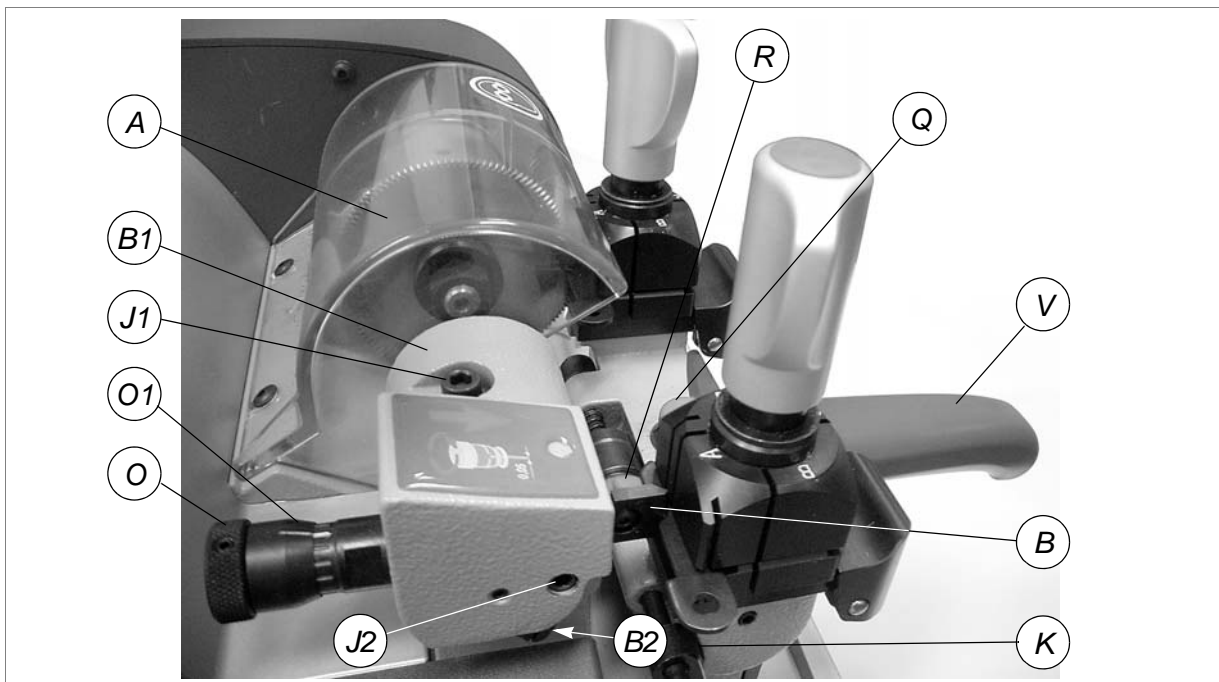

Fig. 17
- 3) Release the carriage by lowering the knob (V) and pressing the push button (Q) right down (fig. 17, page 15).
- a) loosen the screw locking the tracer point (J2) (fig. 17, page 15).
- b) turn the knob (O) clockwise to move the tracer point forwards.
- c) turn the knob (O) anticlockwise to move the tracer point backwards (each mark on the graduated drum equals a variation of 0.05 mm).
- a) with one hand hold still the knurled part of the knob (O).
- 1) Turn off the master switch (C) to operate safely and prevent activation of the cutting tool.
- 2) Place the adjusting key in the clamps (fig.17) with the notch facing the cutting tool and tracer point and proceed as follows:
- a) ensure that the keys adhere to the clamp and that the callipers (K) are in full contact with the stops.
- b) to take the callipers into contact with the keys, rotate the drum (R) towards you (away from you to return to the idle position).
- 3) Release the carriage by lowering the knob (V) and pressing the push button (Q) right down (fig.17).
- 4) Move the adjusting key so that the notch comes into contact with the cutting tool (A) and tracer point (B).
- a) loosen the screw (J1) to move the tracer point (fig.17).
- 8) Lower the carriage by means of the handle (V) (it will engage automatically).